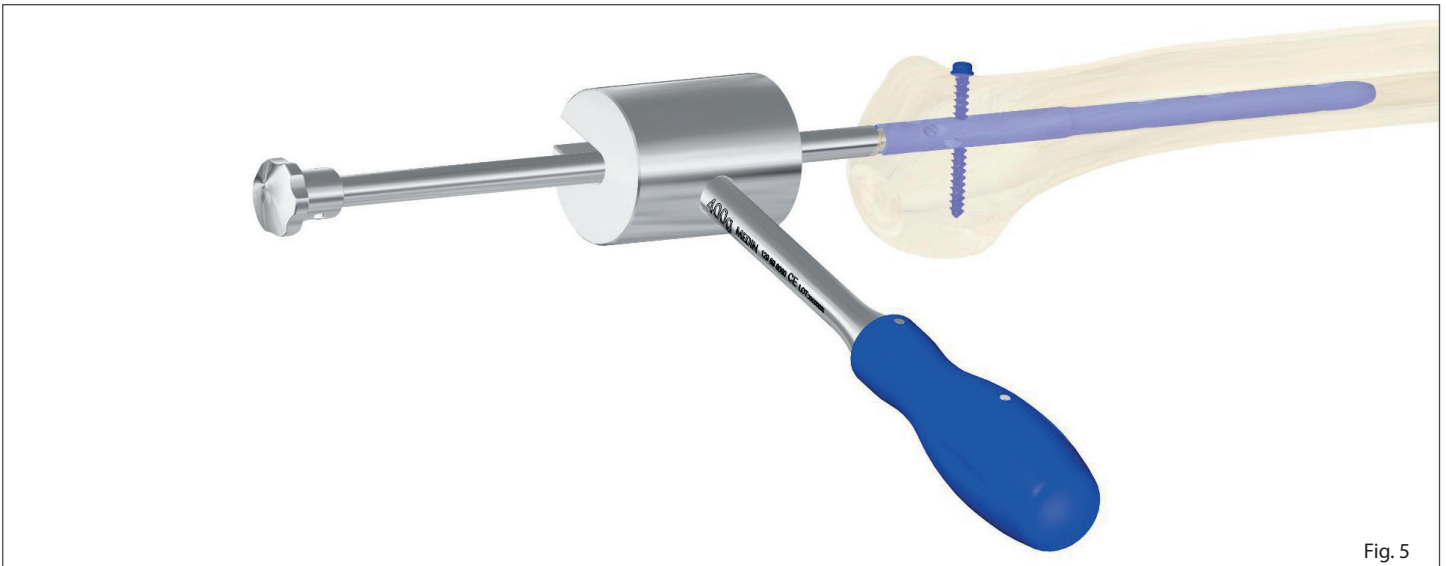

Fig. 5
**2. Screw the mallet axis into the nail before the extraction of the last screw.** (Fig. 5)